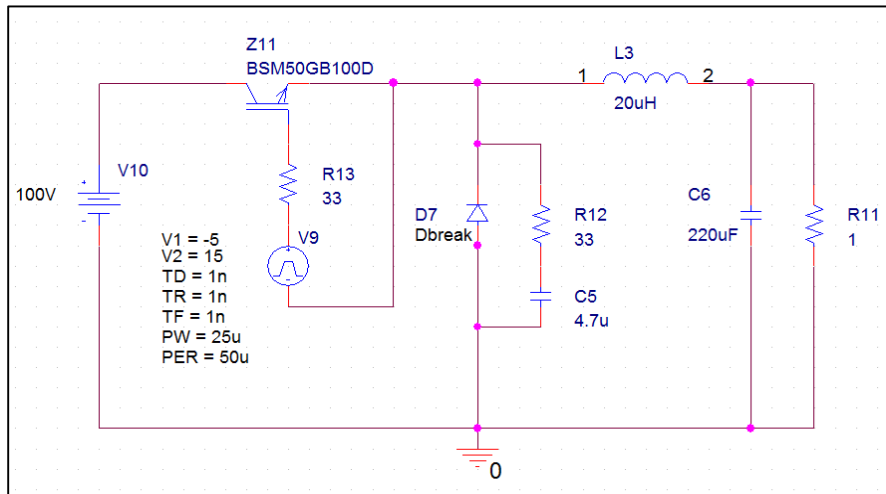

Figure 4
There are two steps to photolithography, patterning the photoresist - exposing the resist to light (typically ultraviolet (UV) light) and developing it (selective removal in a chemical bath). A mask is used to expose the desired part of the photoresist. A mask is a specialized black and white photographic film or glass photoplate on which a picture of the traces and pads is printed with a laser printer. The mask is placed on top of the photoresist as shown in Figure 3(b), and the assembly is exposed to the UV light. The dark areas block UV light and the white (transparent) areas allow the UV light to hit the photoresist, which imprints the circuit image into the photoresist. A separate mask is used for each layer of a circuit board. After the photoresist has been exposed with the mask and UV, it is washed in a chemical called the developer. The resist breaks down during exposure and is removed by the developer. Common developer is sodium hydroxide (NaOH). Once the resist has been exposed and developed, a circuit image made of the photoresist is left on the copper as shown in Figure 4(a).